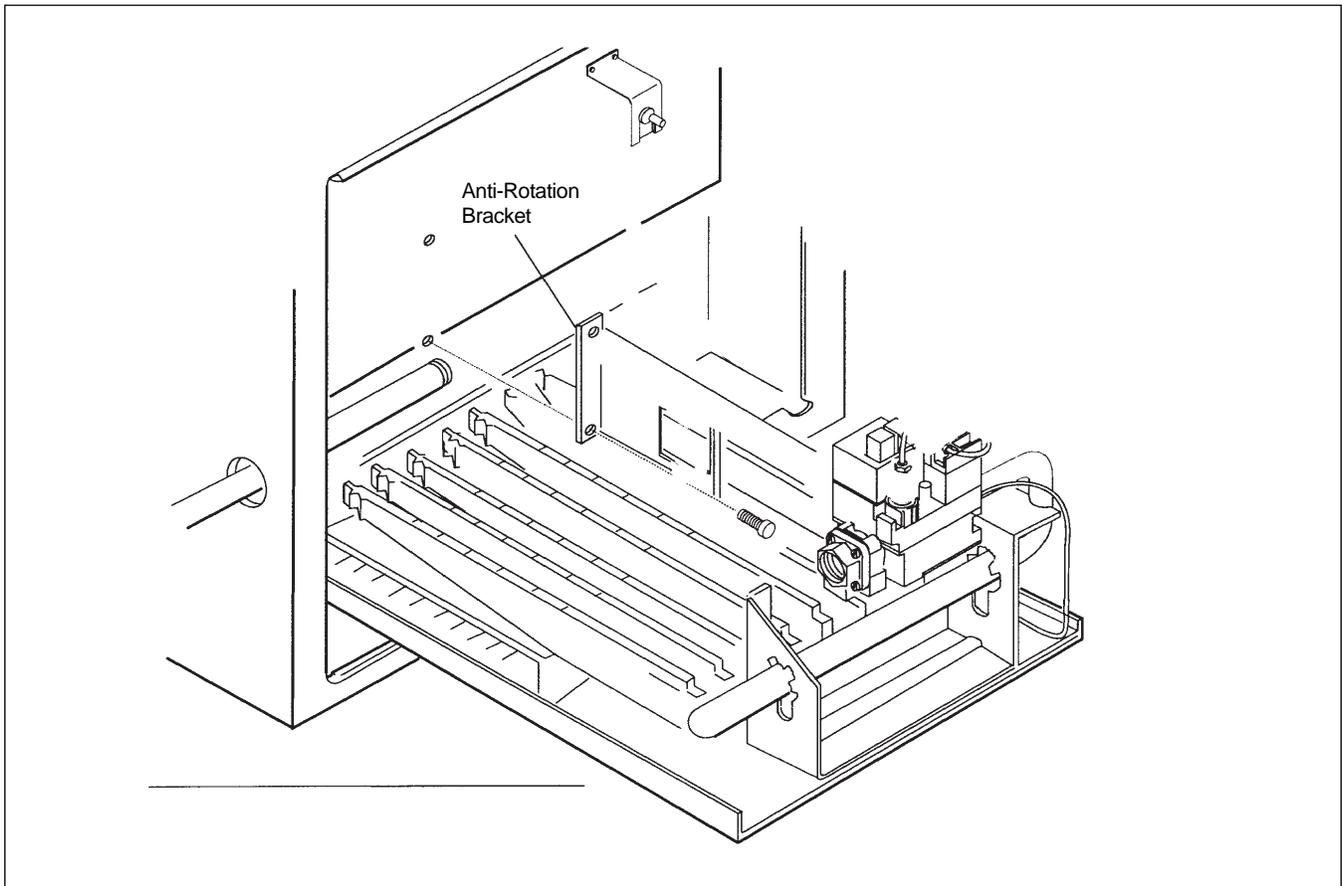

Figure 26. Burner tray removal.
5. Slide the burner tray out of the heater (see Fig. 26).